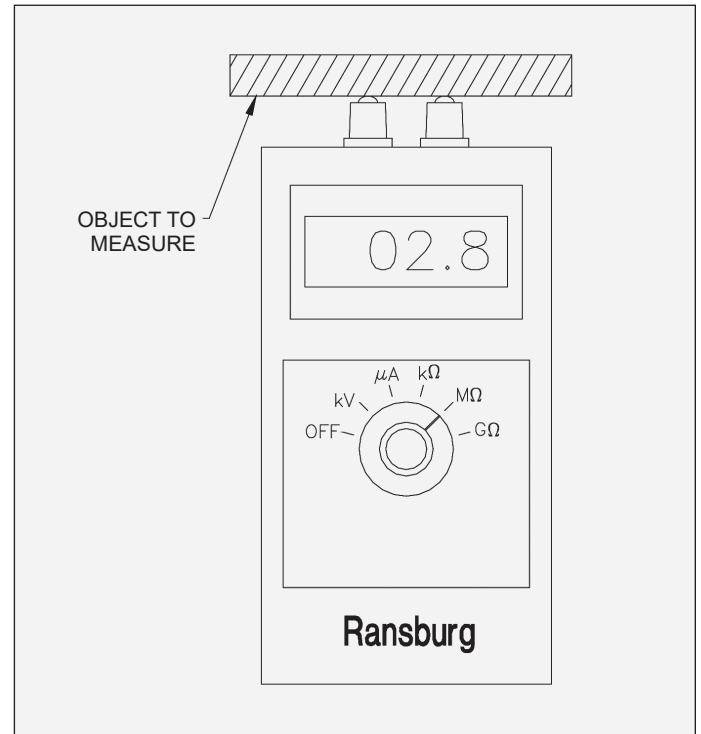

Figure 2: Sprayability Test Meter
1. Set the meter dial to the $M\Omega$ or $G\Omega$ scale (see Figure 2). Check the meter calibration by touching the metallic end of the two (2) probes on the meter to the stripped bare ends of a single 12" long wire (see Figure 2). (If desired the continuity of the wire may be verified by using a Volt-Ohm meter). If the meter reads zero, the meter is in calibration. If it does not read zero, verify the continuity of the wire and re-perform the check. If the meter still does not read zero, consult the factory for repair of the meter.